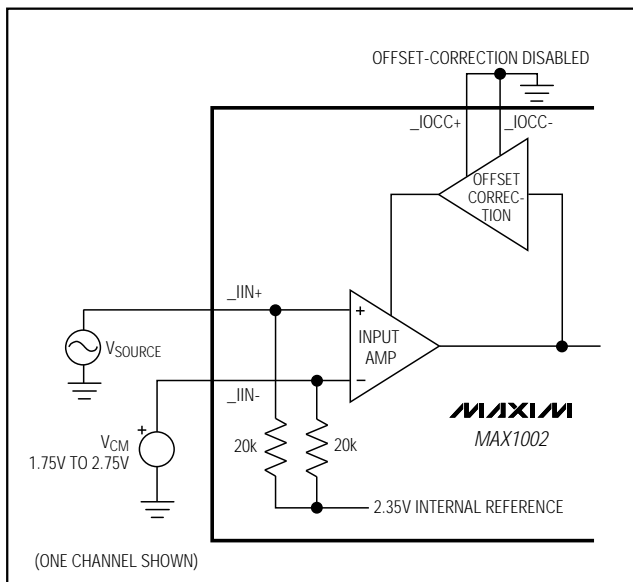

Figure 4. Single-Ended DC-Coupled Input
**Note 2:** A typical application will AC couple the analog input to the DC bias level present at the analog inputs (typically 2.35V). However, it is also possible to DC couple the analog input (using differential or single-ended drive) within this common-mode input range (Figures 4, 5).
Figures 4 and 5 show single-ended and differential DC-coupled input circuits for applications where a DC component of the input signal is present. The amplifiers' input common-mode voltage range extends from 1.75V to 2.75V. To prevent attenuation of the input signal's DC component when operating in this mode, disable the offset-correction amplifier by grounding the  $\text{\_OCC+}$  and  $\text{\_OCC-}$  pins for the I and Q blocks (Figures 4 and 5).